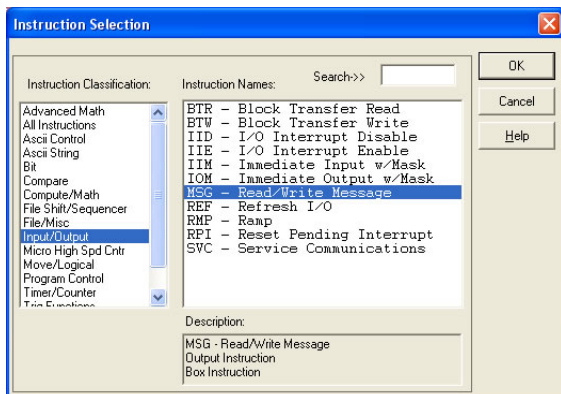

Figure 111: MSG Instruction Selection
- d) Select the "MSG" instruction from the "Input/Output" classification, then click OK. Refer to Figure 111.